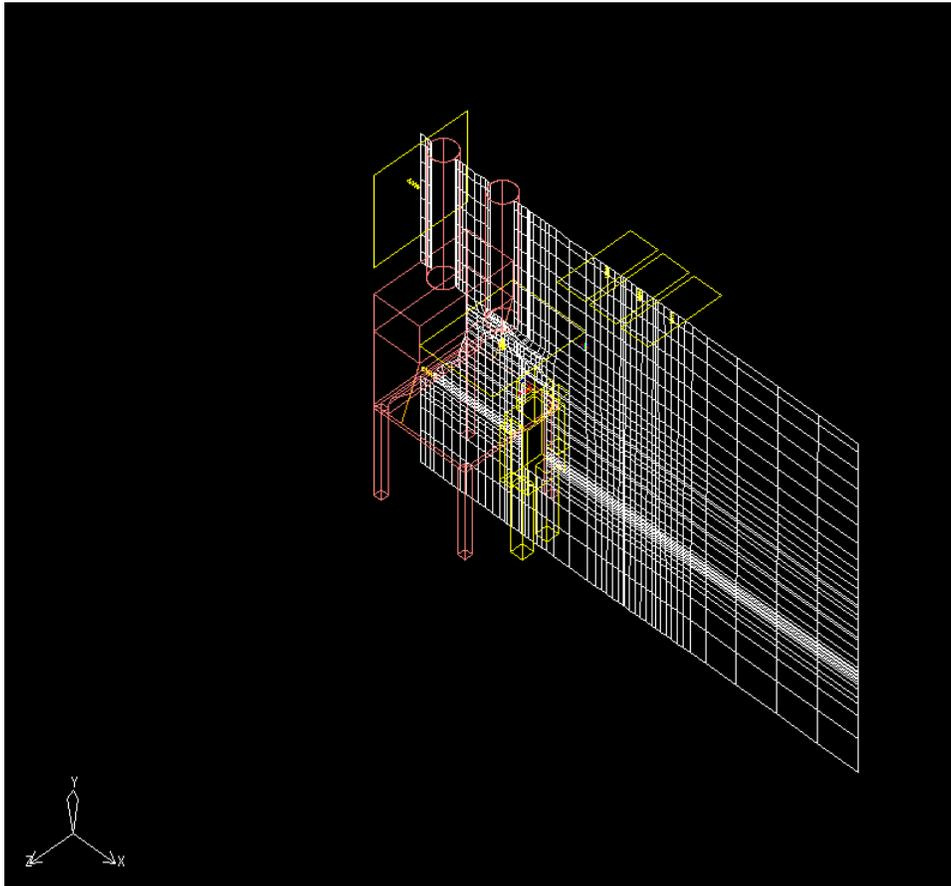

Figure 2.4: Fine Mesh on the  $x$ - $y$  Plane
*The graphics display will be updated automatically to show the new mesh (Figure 2.4). You can use the two square boxes in the **Display** section of the **Mesh control** panel to advance the plane cut and view the mesh throughout the model.*